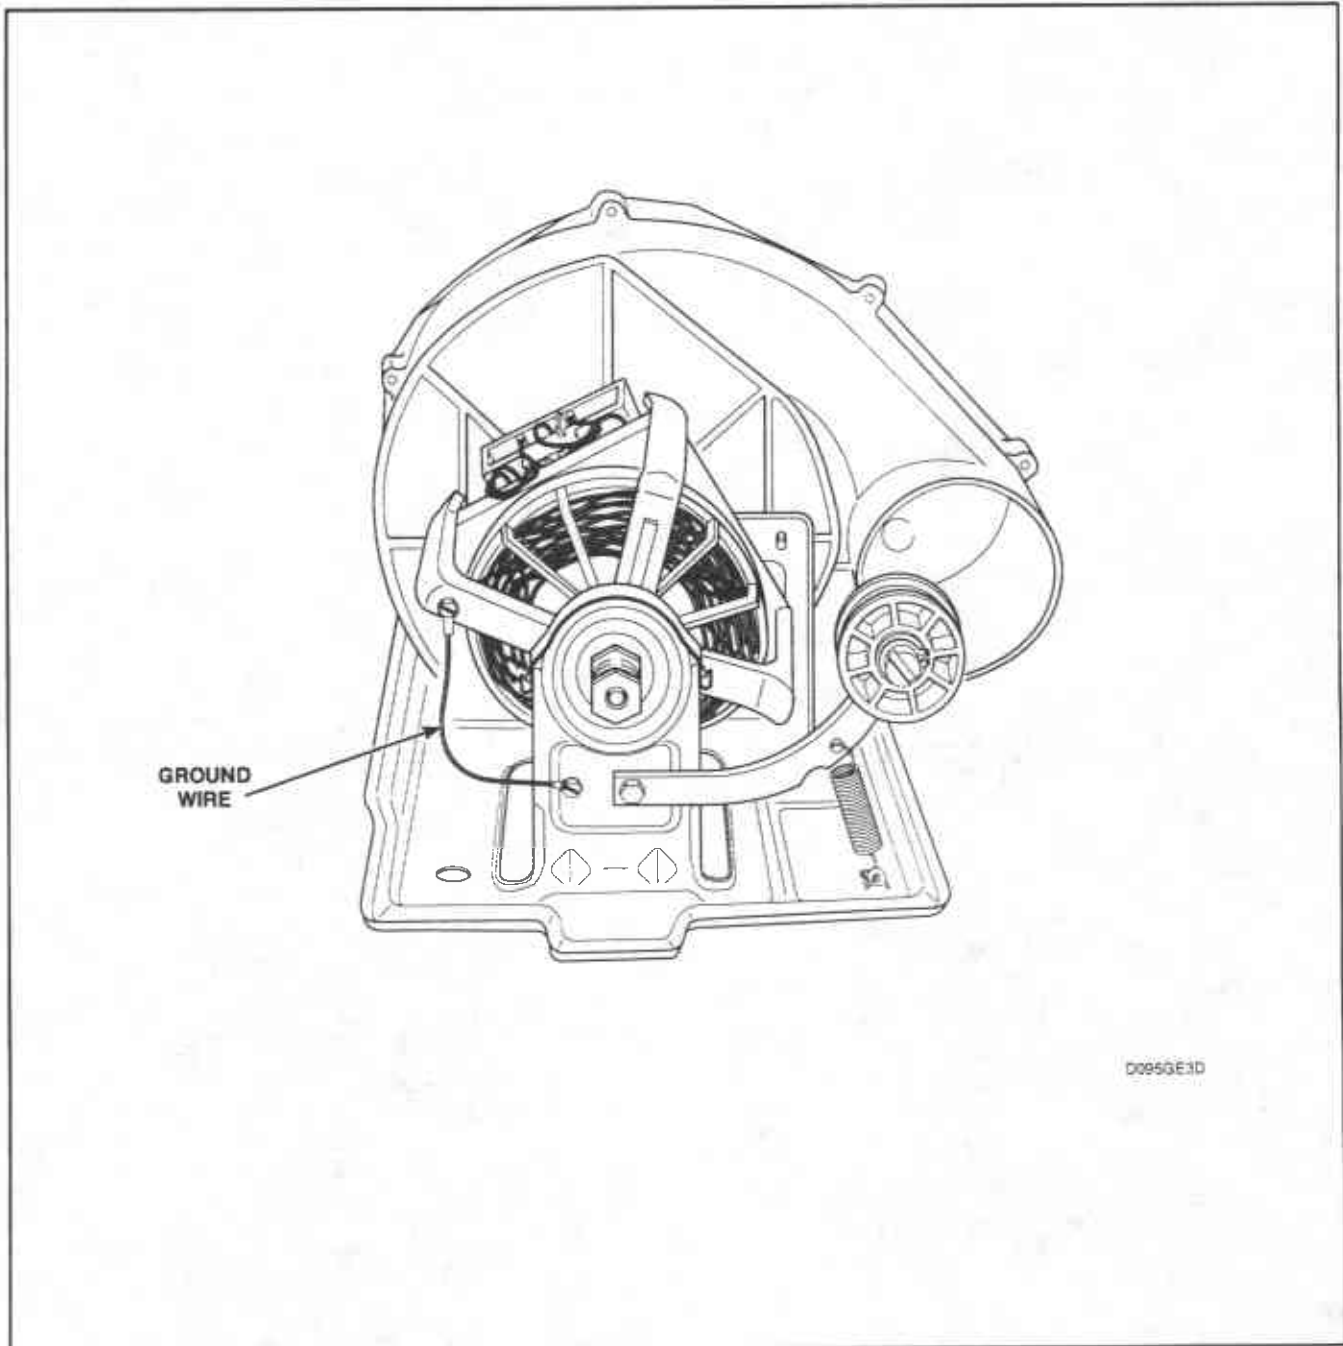

Figure 1
1. MOTOR MOUNTING BRACKET TO MOTOR (Gas and Electric Models — Figure 1).